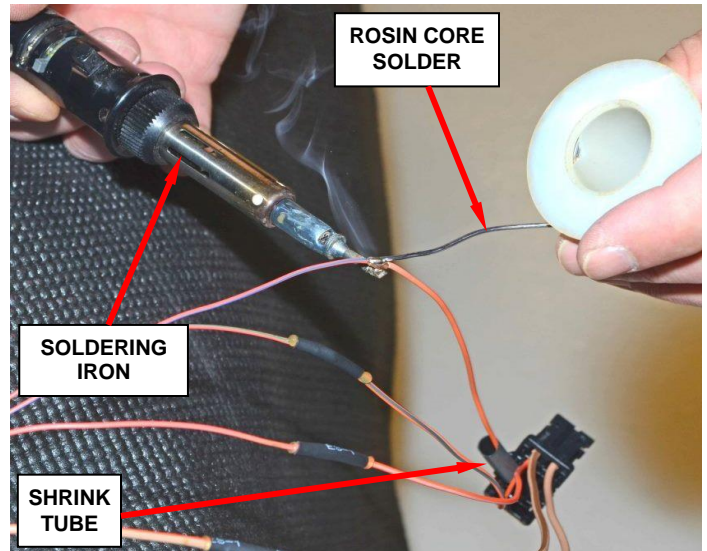

Figure 12 – Solder the Brass Crimp
- e. Solder the brass crimps with rosin core solder (Figure 12).